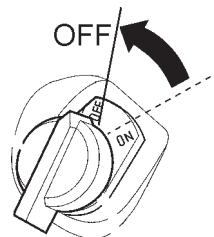

Figure 17. Engine ON/OFF Switch (OFF)
3. Place the **engine ON/OFF switch** (Figure 17) in the “**OFF**” position.
1. Place the **engine ON/OFF switch** (Figure 17) in the “**OFF**” position.